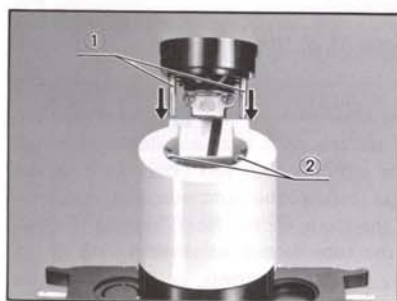

Fig. 7
Aligning the guide pins ① to the guide holes ② of the lamp housing, slowly insert the bulb socket completely without tilting. (Fig. 7)